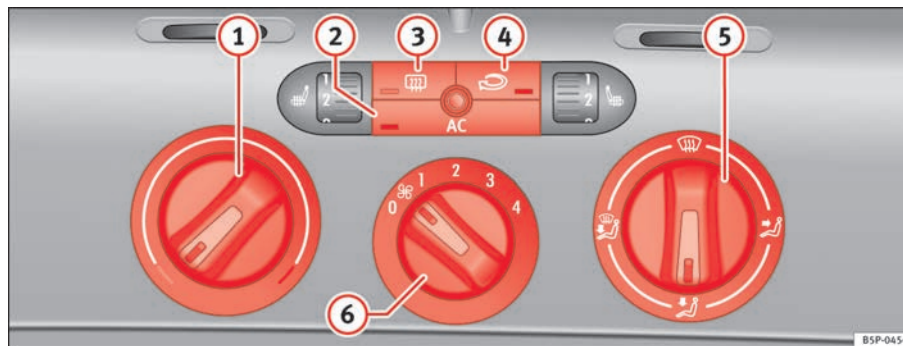

Fig. 126 On the dash panel: Climatic controls
- By using the regulators ⇒ fig. 126 ① and ⑤ and the control ⑥ the temperature, air distribution and the turbine speed can be set.
- To switch a function on or off, press the appropriate button ②, ③ or ④. When the function is activated, the display window in the lower corner of the button is lit.
- ① Temperature selector ⇒ page 156
- ② Button **AC** – Heating, ventilation and air-conditioning system on/off ⇒ page 156
- ③ Button – Rear window heating. The heating will be switched off automatically approximately 20 minutes after switching on. It can also be switched off beforehand by pushing the button.
- ④ Button – Air recirculation mode ⇒ page 157
- ⑤ Air distribution control ⇒ page 156
- ⑥ Blower switch. There are four speed settings for the air flow. The air flow should always be set at the lowest speed when driving slowly.
- Switch on the air conditioning using the button ⇒ page 155, fig. 126 .